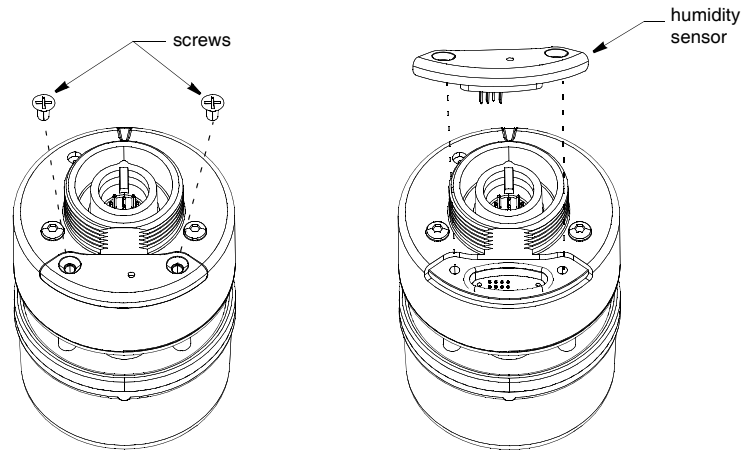

Figure 13. Replacing the humidity sensor
1. Remove the two screws from the humidity sensor or blank (see Figure 13).